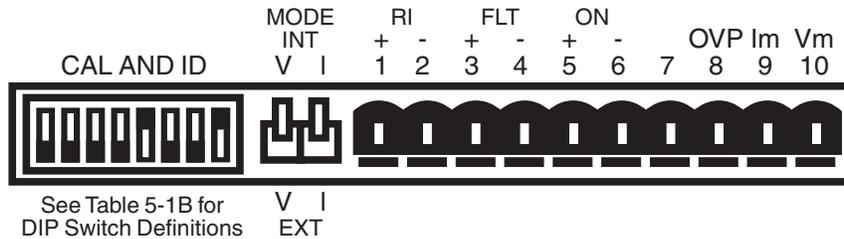

Figure 2-1. RI, FLT, ON and OVP Connections
The MPS has a Fault Indicator (FLT) output and a discrete Remote Inhibit (RI) input which are both interface independent and provide fault indication and remote output shutdown in the event of catastrophic failure. The Fault Indicator relay contact is open when the MPS detects no faults. When the MPS detects an internal fault, a remote inhibit, or an output inhibit, it lights the front panel Fault LED and closes the relay contact. The contact closure alerts other system components of the fault. In an auto-parallel system (up to four MPS units connected in parallel) these signals connect in parallel between each of the MPS units (See Paragraph 2.6 for details on connections between two auto-parallel units). Make connections to a rear panel detachable terminal block defined in Table 2-2 and Figure 2-1.
The MPS provides a discrete ON indicator. Terminals 5 and 6 on the terminal block connector, shown in Figure 2-1 above, connect to relay contacts that close when the front panel circuit breaker is in the ON position. There is also a front panel LED that lights when the MPS is ON and connected to AC power.
Remotely program MPS output current by an external voltage or potentiometer. Enable external analog programming via the rear panel I MODE switch. When the I MODE switch is in the INT I position, external current mode is disabled. When the I MODE switch is in the EXT I position, the external programming voltage is summed with the internal programming voltage. Set the internal programming to zero for external programming only. Apply an external voltage from Ip to m of 0 to 1.25 volts or use a 10 KΩ potentiometer to control the output current over the entire range. Make connections to rear panel detachable terminal block defined in Tables 2-1 and 2-2 and Figures 2-1 and 2-2. The MPS produces 100 A of output current for 1 V at the current programming input.